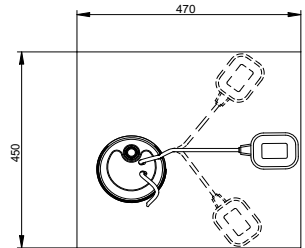

Fig. 7 Min. Size Of Sump
2.23 Wherever the pump is installed it must have sufficient dimensions for the float switch to operate freely (Fig. 7), retaining a minimum water depth as previously stated. The pump is continuously rated when fully submerged but should only be run for short periods (10 mins) when the water drops to the minimum level. The number of starts should not exceed 30 per hour.